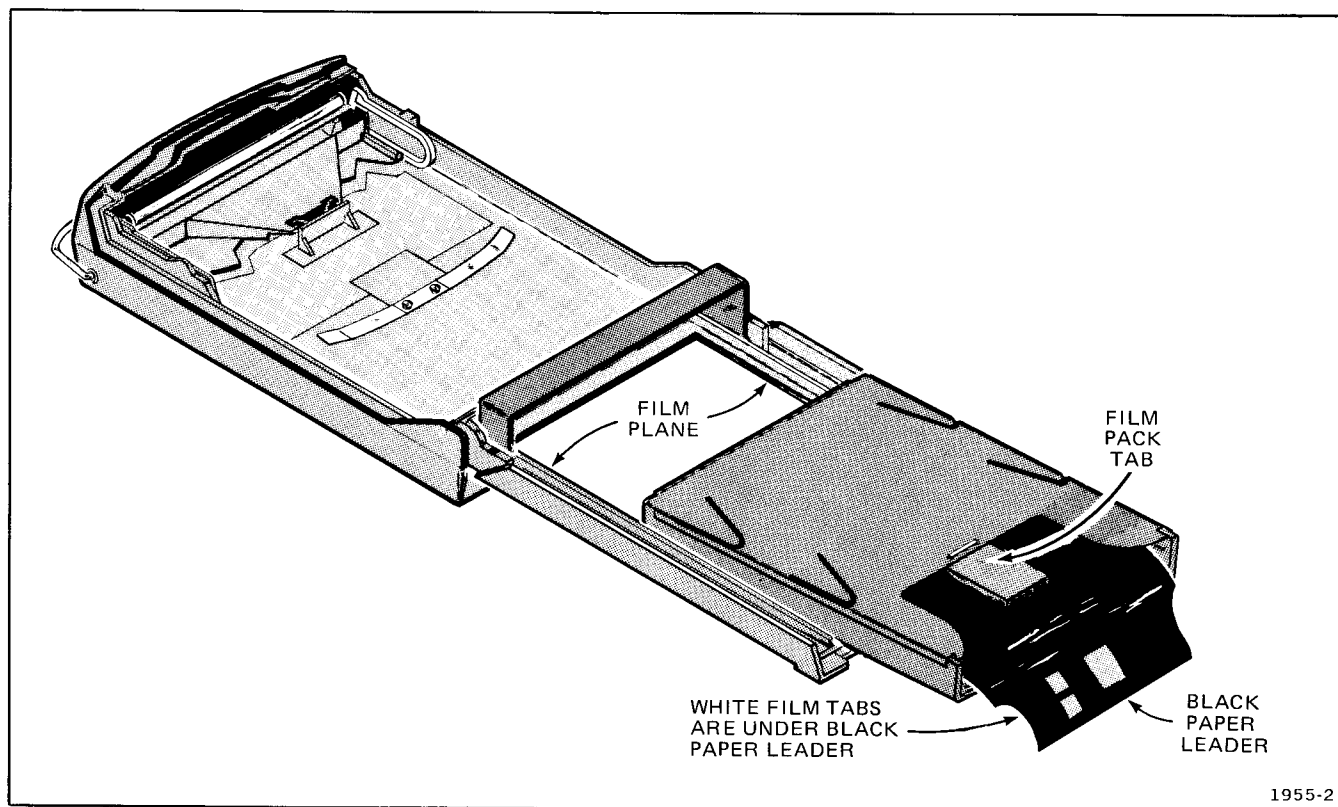

Fig. 2-4. Installing the film pack.
2. To remove an empty film container, lift up on the film pack tab and pull to the right (Fig. 2-4).
4. Insert the film pack into the film plane as shown in Fig. 2-4. Then push the film pack to the left and down
into the film plane until it snaps into place. Be sure that the indicated side of the film pack is facing toward the lens; the black paper leader is hanging over the right end of the camera back (Fig. 2-4); and the white film tabs are not caught between the film pack and film plane.